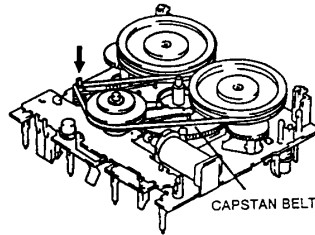

Fig. 10
- Install the new capstan belt temporarily (fig. 10).